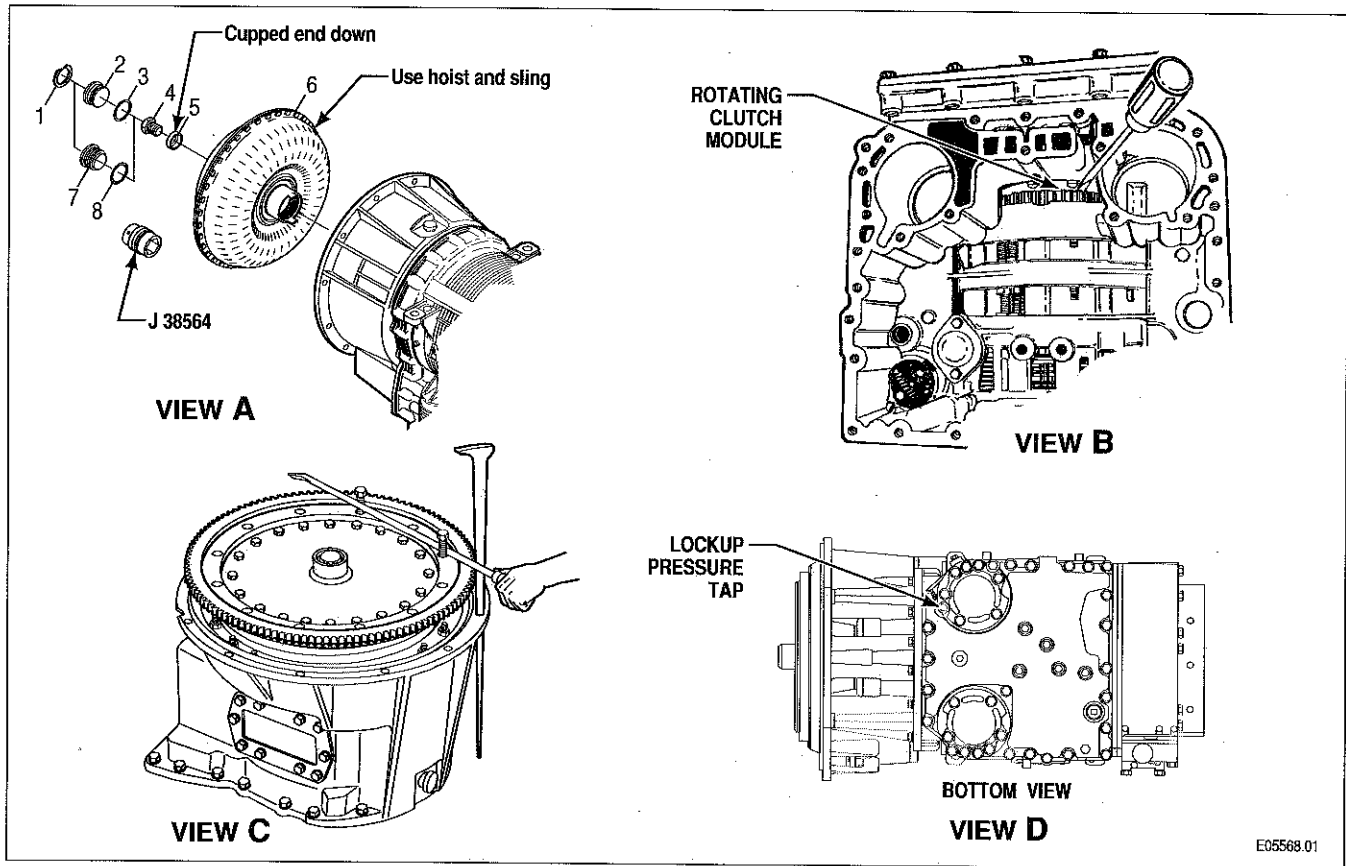

Figure 4-7. Torque Converter Module Removal
## **i. Removal of Torque Converter Module** (Figure 4-7)
- For units before S/N 6510165560, go to Step (2).
- For units beginning with S/N 6510165560, skip Steps (2) and (3) and go to Step (4).
2. Remove retaining ring 1 using snapping pliers (Figure 4-7, View A).
3. Thread an M6 bolt into converter end plug 2 and remove plug 2 and O-ring 3. Skip Steps (4) and (5) and go to Step (6).
4. Keep the torque converter cover from turning by using a heel bar, two bolts and a screwdriver (Figure 4-7, View C).
- Insert a screwdriver into the vanes on the rotating clutch module (Figure 4-7, View B).
- If the control module is in place, remove the plug(s), if present, from the fill tube hole or from cooler ports before applying lockup air pressure. Apply air pressure through the lockup pressure tap (Figure 4-7, View D) and use a heel bar, screwdriver, and bolts. Insert the heel bar into a torque converter housing bolt hole. Insert two bolts into the flexplate adapter bolt holes. Then place a screwdriver at an angle to prevent converter rotation (Figure 4-7, View C).
8. Remove shim 5 located under bolt 4 (Figure 4-7, View A).
9. Attach a sling to the flexplate adapter by positioning the adapter connections an equal distance from each other. Using a chain hoist, carefully lift torque converter module 6 out of the converter housing (Figure 4-7, View A).